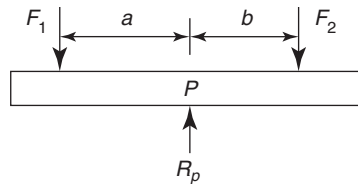

Figure 5.3
Figure 5.3 shows a beam with its support (known as its **pivot** or **fulcrum**) at P , acting vertically upwards, and forces F_1 and F_2 acting vertically downwards at distances a and b , respectively, from the fulcrum.
- The sum of the forces acting vertically downwards must be equal to the sum of the forces acting vertically upwards, i.e. for Figure 5.3, $R_p = F_1 + F_2$
Hence, taking moments about P in Figure 5.3,